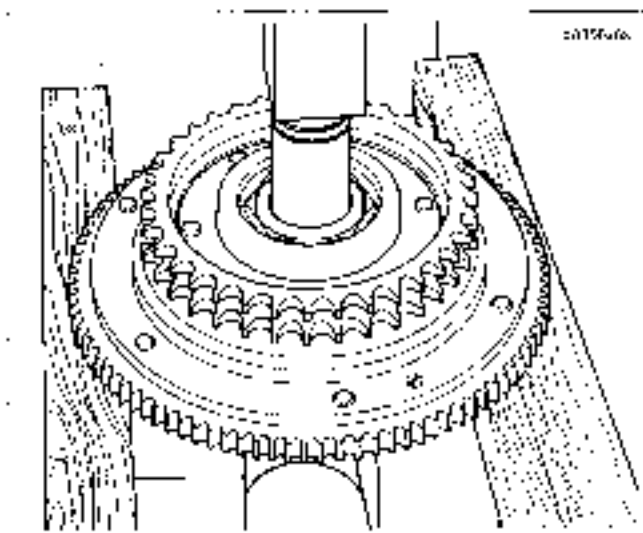

Figure 6-20. Pressing Clutch Hub From Bearing
- 3 See Figure 6-20. Supporting clutch shell in same orientation, use arbor press and a suitable press plug to press hub from bearing in clutch shell.